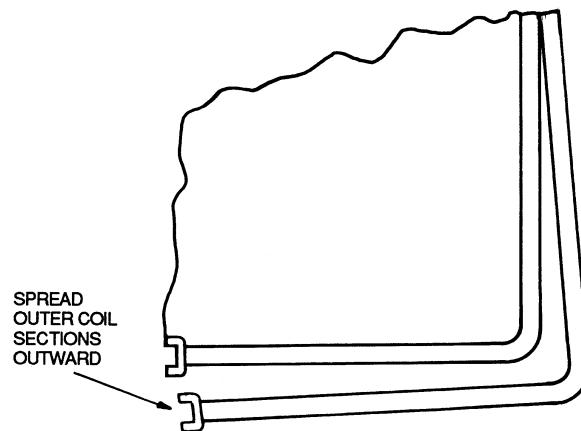

Fig. 24 — Coil Cleaning (Typical)
3. Remove clips securing tube sheets together at the return bend end of the coil. Carefully spread the ends of the coil rows apart by moving the outer sections. See Fig. 24.